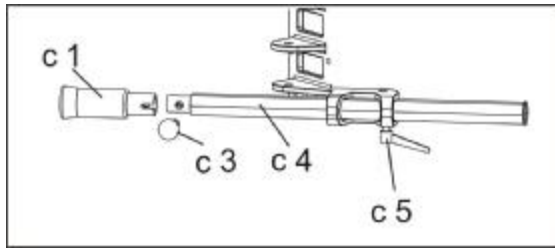
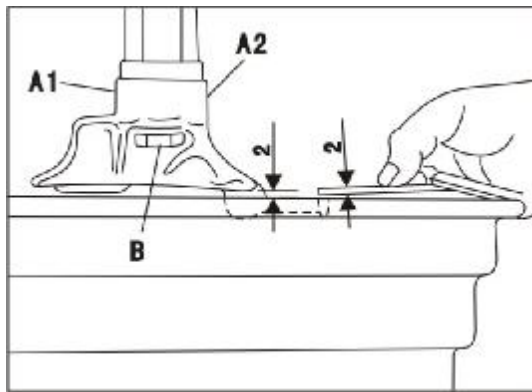
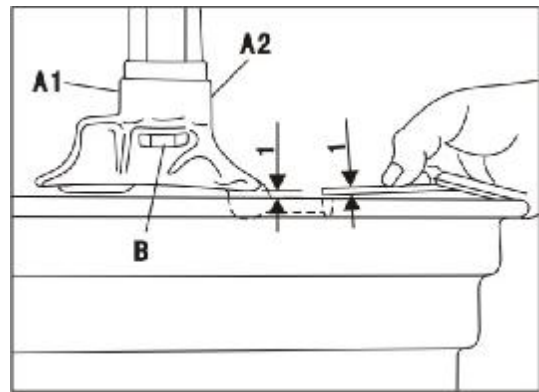

Fig.25
Fig.28
Fig.29
I Group c of supplementary arm as in fig.25.Choose roller 1(c1) according to need and fix it on fore part of slide rod(c4) by knob(c3). Turn lock bar(c5) to lock slide rod (c4.)
- I Tighten screws A1-A2 (Fig.28,32) mount/demount head with roller; Fig.29, 33 mount / demount head with insert) to tilt the mount / demount head and obtain the correct position and then finger-tighten screw B.
- I If measurement 2 (roller, Fig.28) or measurement 1 (insert, Fig.29) are changed, the cause may be that nut i(Fig.25) has loosened.